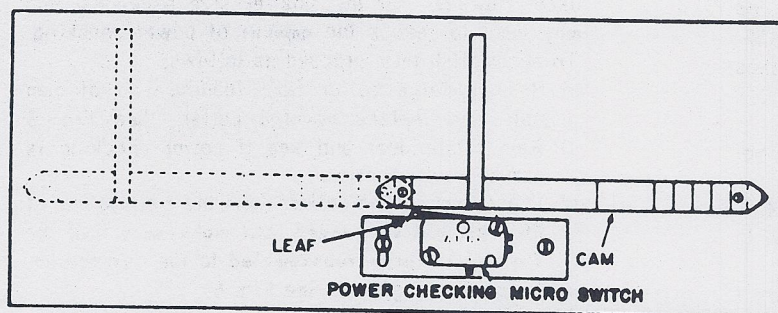

FIGURE 5
11. Manually open door and check that the power checking micro-switch leaf closes, a clicking sound will be heard, and also that the cam engages the switch along its entire length. If cam does not engage switch, adjust switch until it does. See Fig. 5.